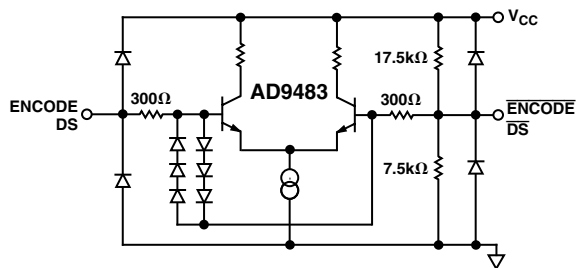

Figure 5. Equivalent Encode and Data Select Input Circuit
ENCODE and Data Select (DS) can be driven differentially or single-ended. For single-ended operation, the complement inputs ($\overline{\text{ENCODE}}$, \overline{DS}) are internally biased to $V_{DD}/3$ (~1.5 V) by a high impedance on-chip resistor divider (Figure 5), but they may be externally driven to establish an alternate threshold if desired. A 0.1 μF decoupling capacitor to ground is sufficient to maintain a threshold appropriate for TTL or CMOS logic.
Note the 6-diode clock input protection circuitry in Figure 5. This limits the differential input voltage to ± 2.1 V. When the diodes turn on, current is limited by the 300 Ω series resistor. Exceeding 2.1 V across the differential inputs will have no impact on the performance of the converter, but be aware of the clock signal distortion that may be produced by the nonlinear impedance at the converter.